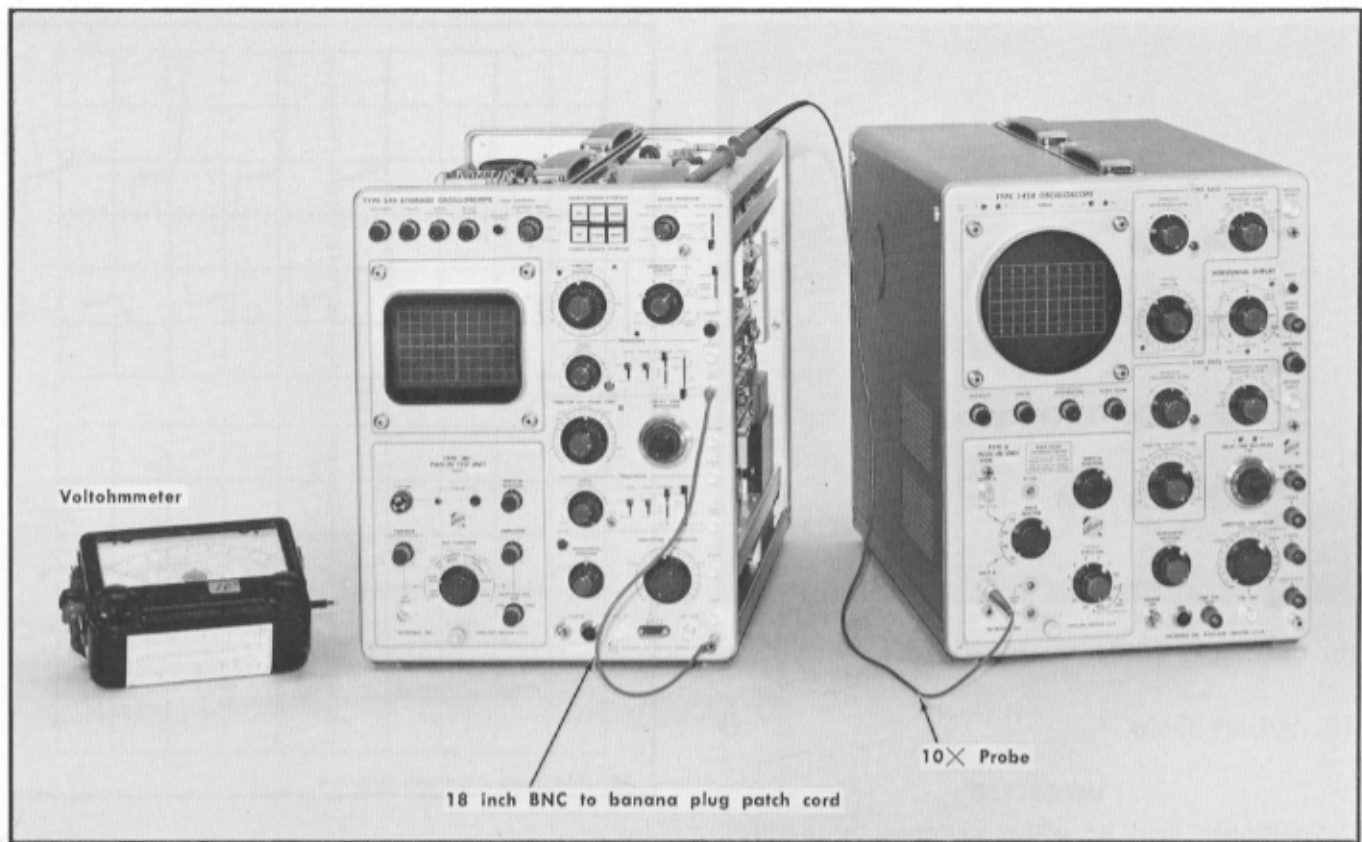

Fig. 6-15. Equipment setup for steps 15 through 19.
- a. Equipment setup is shown in Fig. 6-15.